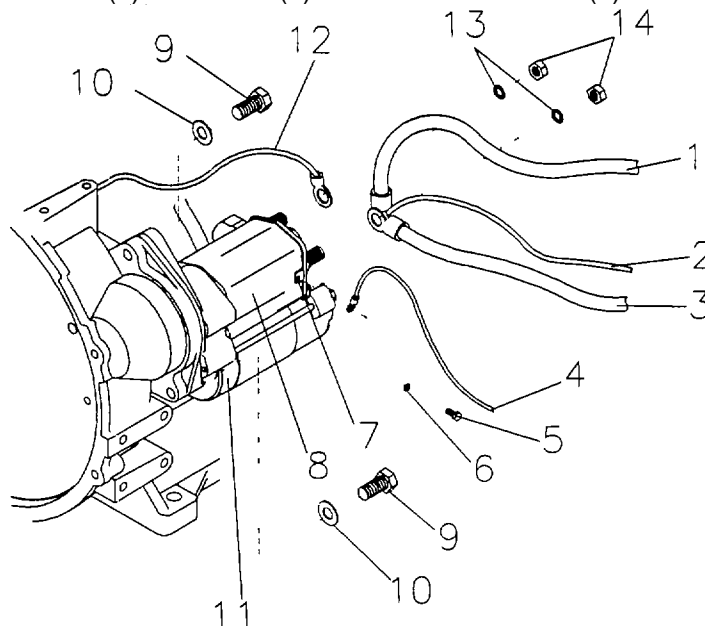

Figure 4-17. Starter.
a. Removal. Refer to figure 4-17.
- 1) Remove nuts (14) and lockwashers (13). Discard lockwashers.
- 2) Remove screw (5) and lockwasher (6). Tag and remove starter switch wire (4) from starter solenoid (8).
- 3) Tag and remove fuel solenoid wire (12) from starter solenoid (8).
- 4) Tag and remove positive battery cable (3) slave receptacle cable (1) and harness wire (2) from starter solenoid (8).
- 5) Support starter (11) and remove screws (9) and flatwashers (10). Remove starter (11).
b. Installation. Refer to figure 4-17.
- 1) Install the starter (11) using flatwashers (10) mounting bolts (9) and secure to 30 0 ft. lb. (41.0 Nm).
- 2) Install the wires (1), (2), and (3) and (12) to the starter solenoid. Install lockwashers (13) and nuts (14) to the starter solenoid and secure to 4.5/8.5 ft lb (5.89/11 77 Nm).
- 3) Install wire (4) lockwasher (6) and screw (5) to the starter solenoid (8).